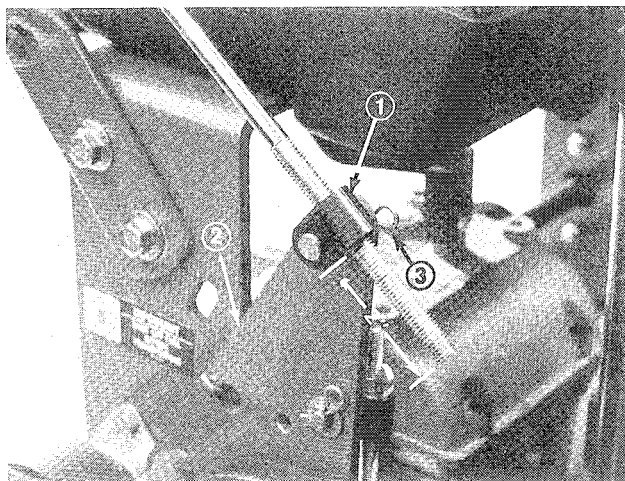

Figure 7
1. Thread a rod fitting onto each control rod approximately 2" (Fig. 7).
2. Mount rod fitting ends to mounting holes in idler brackets (from outside) with clevis pins, washers and hairpin cottes (Fig. 7).